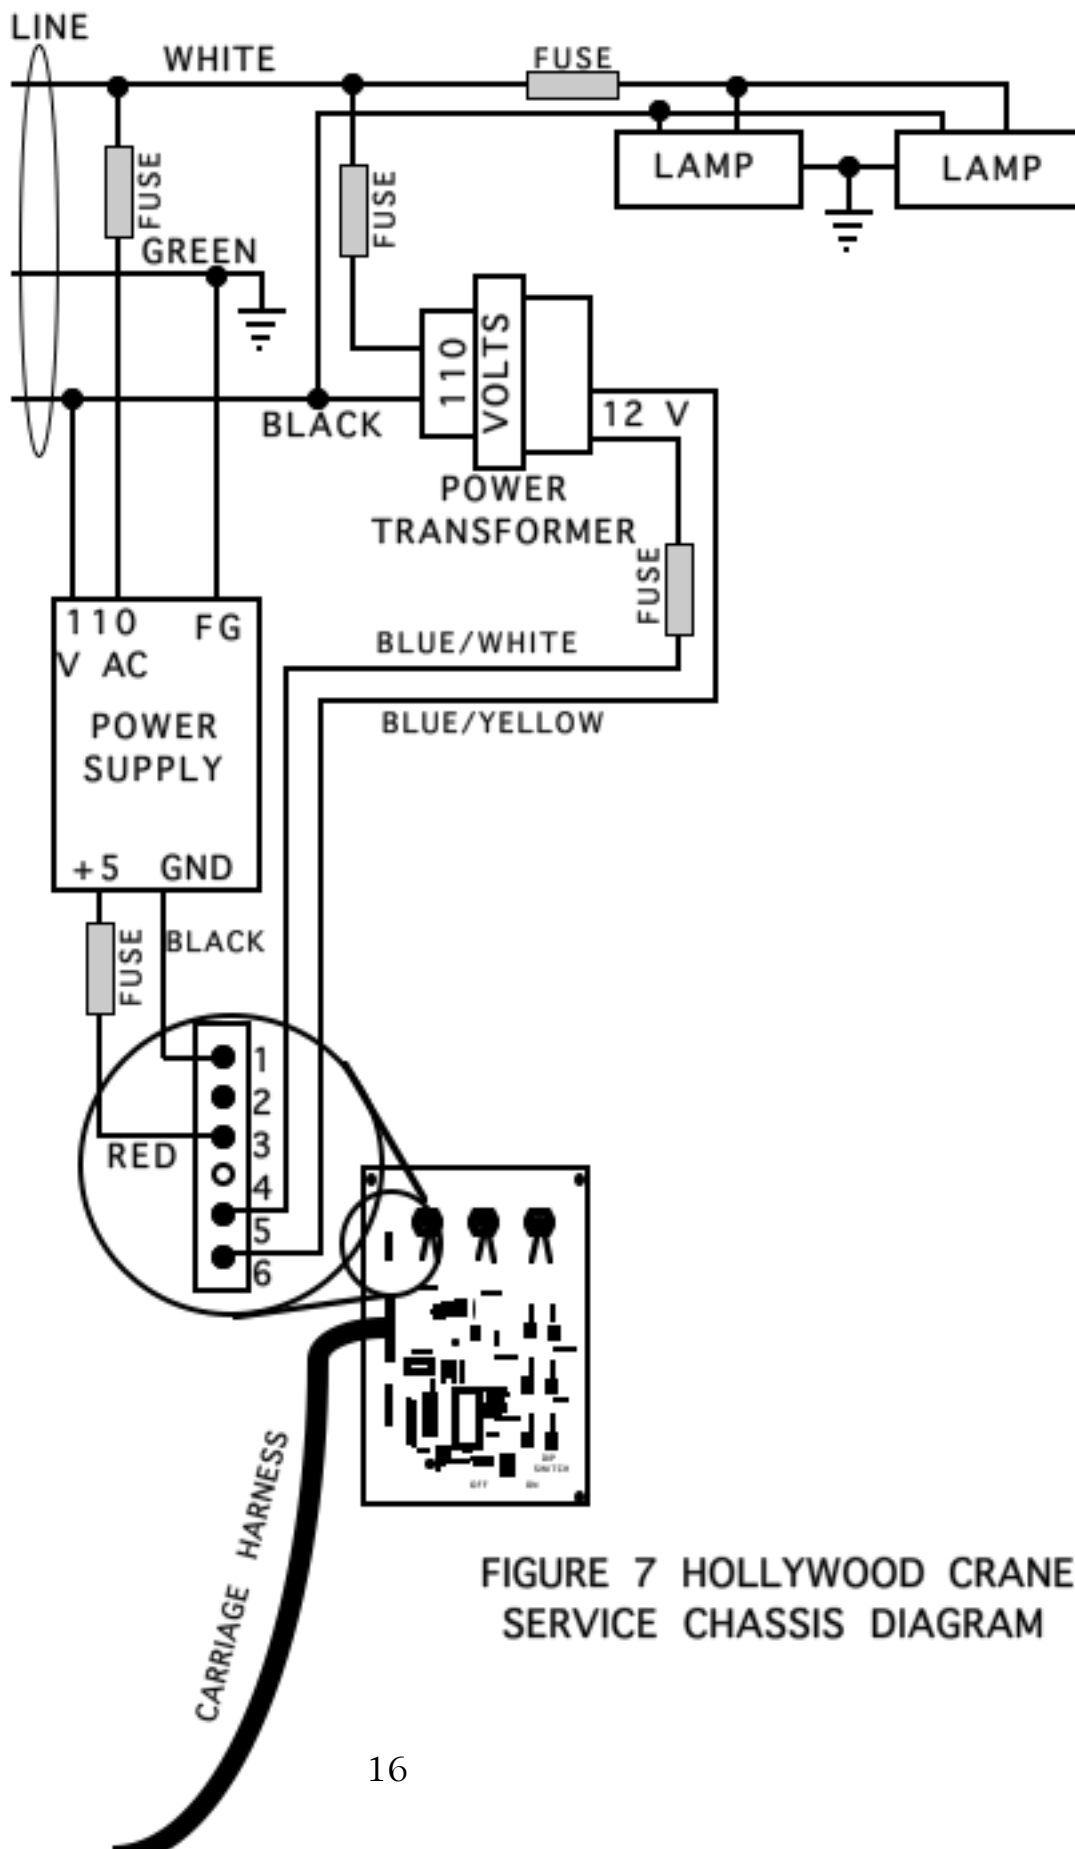

FIGURE 7 HOLLYWOOD CRANE SERVICE CHASSIS DIAGRAM
* ALTERNATE STEP #8 FOR HOLLYWOOD CRANES ONLY: Refer to figure 7
- 8j. Connect (3) 18-gauge wires, one white, one black, and one green to the AC line commons and FG terminal on the service chassis. These wires need to be long enough to be fed around the top, down the wiring trough, and into the bottom of the machine.